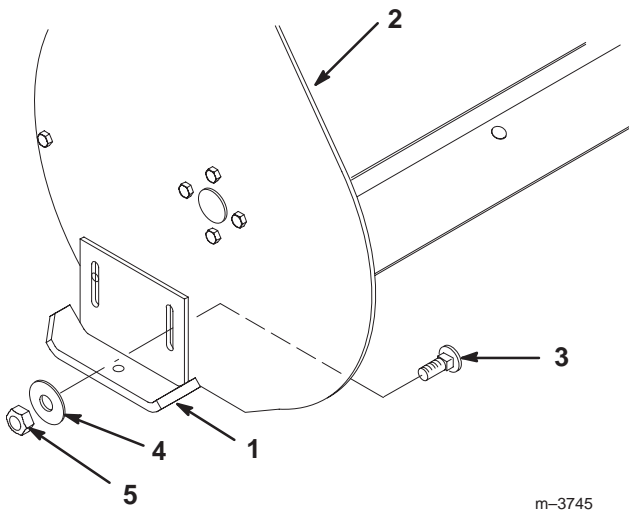

Figure 47
6. Loosen the nuts securing the skids to the housing until the skids slide up and down easily (Fig. 47).
7. Raise or lower the skids equally on both sides to obtain level scraping action, and tighten nuts securely (Fig. 47).